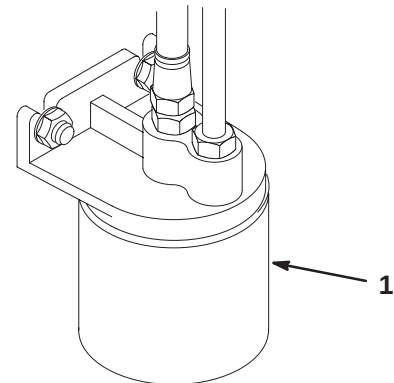

Figure 36
- Place drain pan under filter, remove the old filter and wipe the filter adapter gasket surface clean (Fig. 36).